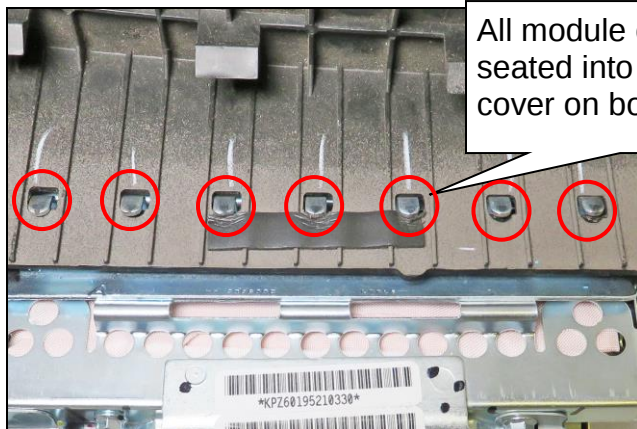
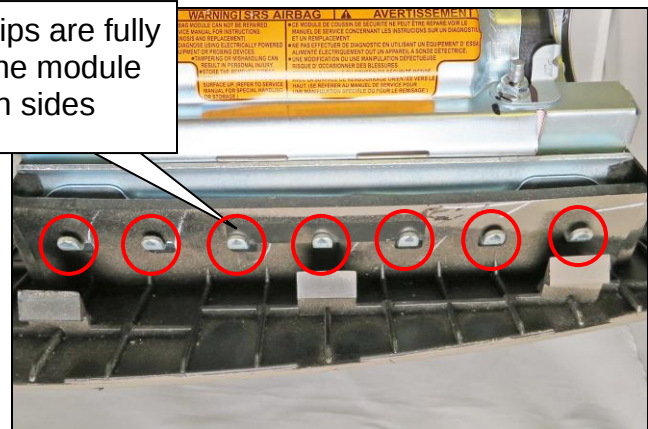

Figure 14
Figure 15
13. Ensure ALL module clips (circled in red) are fully seated into BOTH sides of the module cover as shown in Figure 14 and Figure 15.